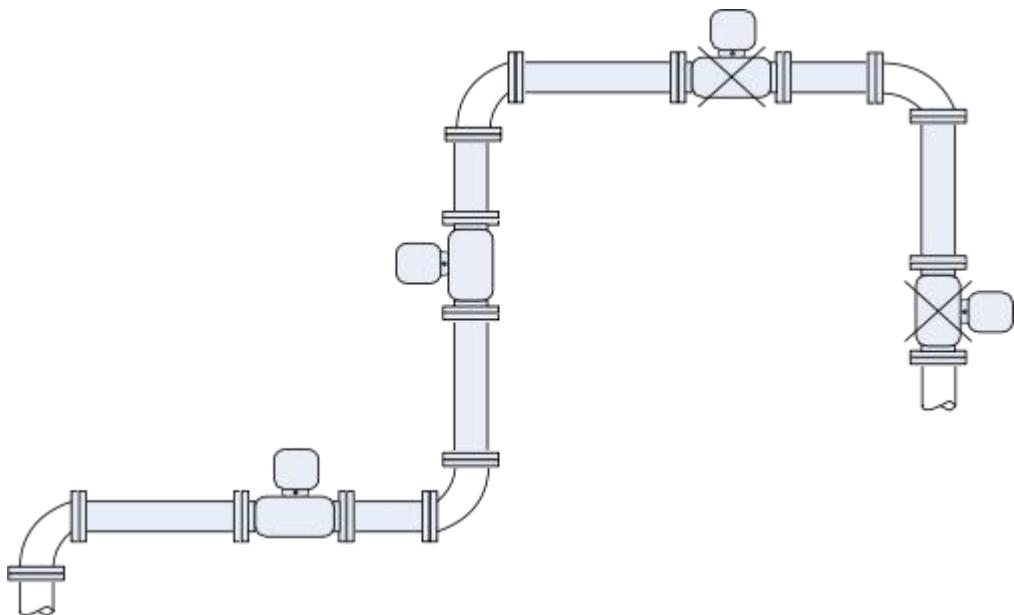

FIG. 6 Mounting position
- a. The instrument can be installed anywhere on the running pipe, preferring vertical installation. When measuring, it is necessary to ensure that the measuring tube is completely filled with medium, and the electromagnetic flowmeter does not work properly in the case of non-full tube. This is shown in Figure 6.